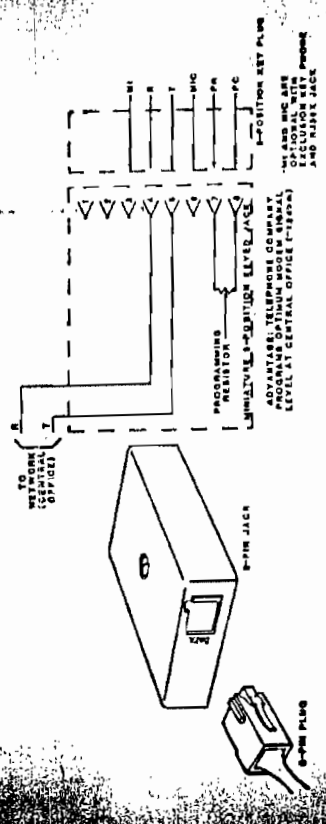

Figure B-3
- Programmed RJ45S (see Figure B-3)